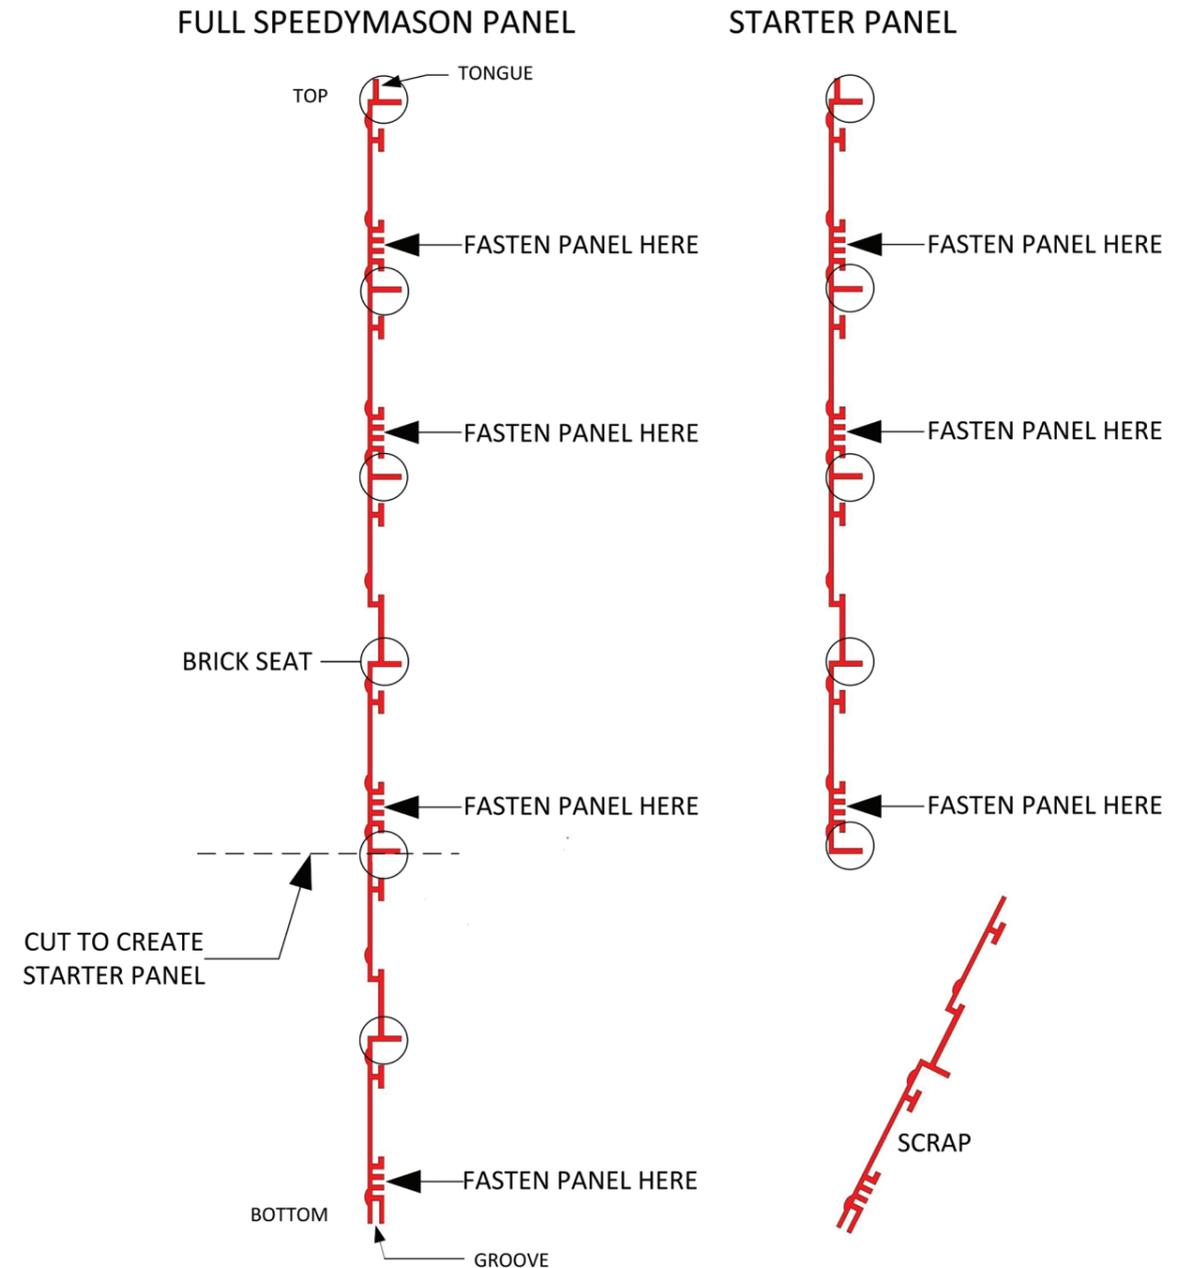

FIGURE 1
- Creating a starter panel. **(See figure 1)** Measure and determine the layout based on starter panel.
- Beginning with starter panel, line up the first row of Peel n' Stick on wall ensuring it is level. Peel n' Stick has an interlocking tongue and groove on the top and bottom of the panel. **(See figure 1)**
- Fasten panels to wall using nails or screws at the fastening points. **(See figure 1)**